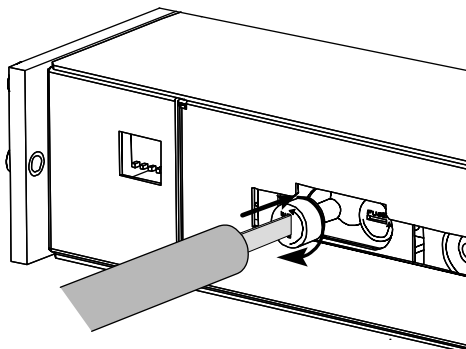
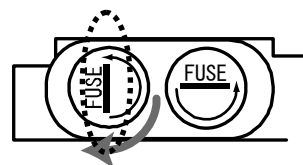

Fig. 6-4
Fig. 6-5
6. When installing the fuse holder, use a flat-blade screw driver. When pushing the fuse, keep the fuse holder slit (Fig. 6-4) vertical to the unit (Fig. 6-5, dotted line), and then press deeply and turn clockwise 90°.